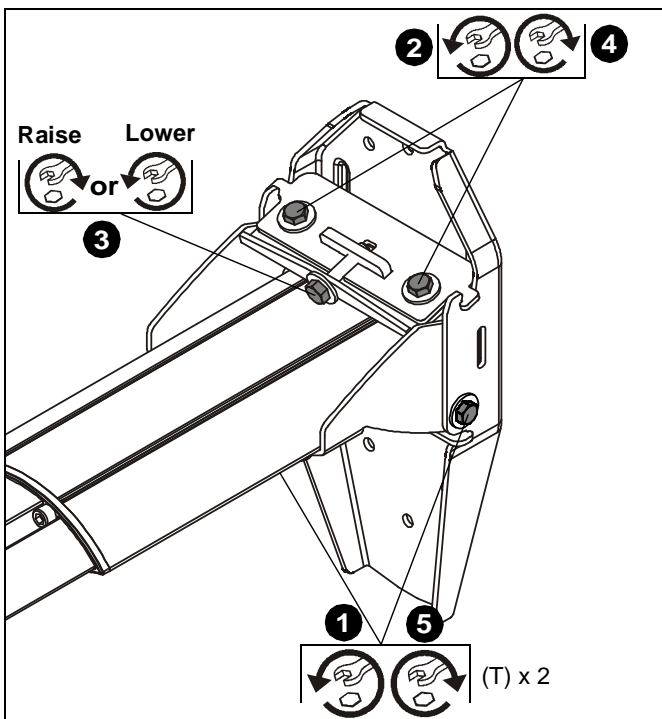

Figure 22
1. Loosen two 5/16-18 x 1/2" hex head screws (T) (one on each side of wall bracket). (See Figure 22)
2. Loosen two bolts (one on each side of pitch adjustment screw). (See Figure 22)
- Turn **counterclockwise** to lower mounting level. (See Figure 22)
4. Tighten two bolts (one bolt on either side of pitch adjustment screw). (See Figure 22)
5. Tighten two 5/16-18 x 1/2" hex head screws (T) (one on each side of mounting bracket). (See Figure 22)